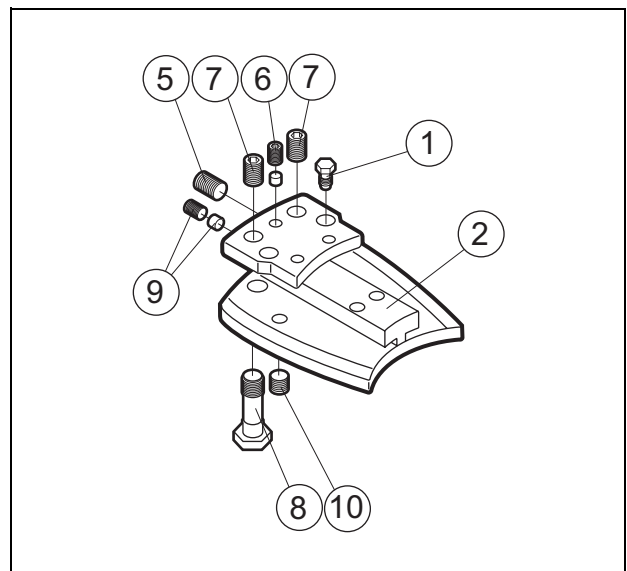

Fig. 45 Bar holder
2. Loosen the set screw (6), $W = 4$ mm, and replace the 20mm long set screw (5) with a 40 mm long set screw. See Fig. 45.
3. Tighten the set screw (5) until the chain is properly tensioned. See Fig. 45.
4. Tighten the set screw (6). See Fig. 45.
5. Lock the bar holder (2) with the two set screws (10), $W = 6$ mm. See Fig. 45.
7. When switching back to the automatic tensioner, the 40mm long set screw has to be replaced with the 20 mm long set screw and the set screws (10) have to be loosened so that the upper end of the screw is approx. 1.5 mm below the surface of the bar holder.